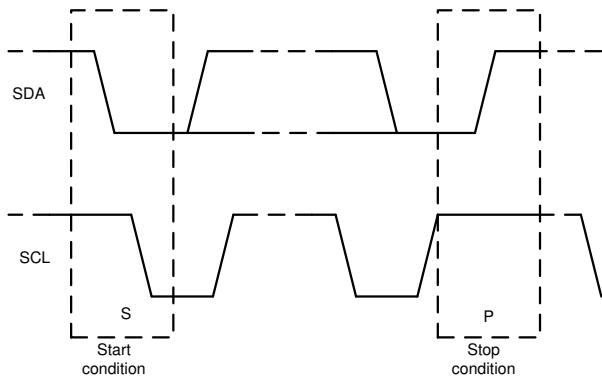

图 7-19. Start and Stop Conditions
1. The controller initiates data transfer by generating a start condition. 图 7-19 shows that the start condition is when a high-to-low transition occurs on the SDA line while SCL is high. All I2C-compatible devices recognize a start condition.
4. 图 7-19 shows that to signal the end of the data transfer, the controller generates a stop condition by pulling the SDA line from low-to-high while the SCL line is high. This action releases the bus and stops the communication link with the addressed target. All I2C-compatible devices recognize the stop condition. Upon receipt of a stop condition, the bus is released, and all target devices then wait for a start condition followed by a matching address.